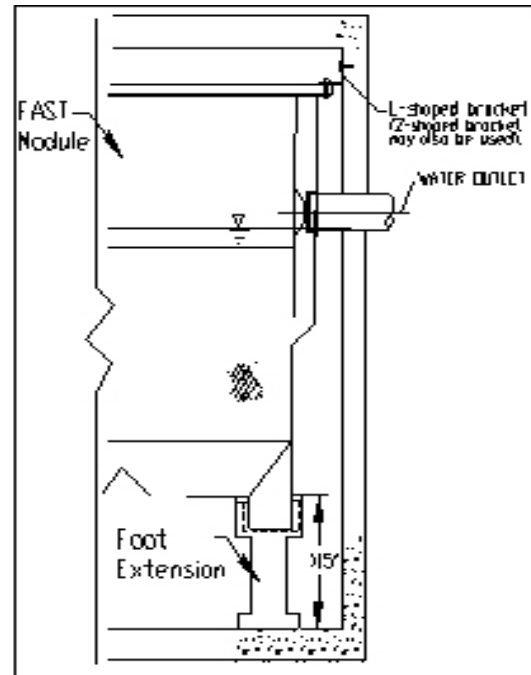

FIGURE 3
- E. If the tank is too small for a person to get inside with the unit to anchor/bolt the leg extensions to the floor, brackets may be used to attach the flange at the top of the liner to the tank (see FIGURE 3).